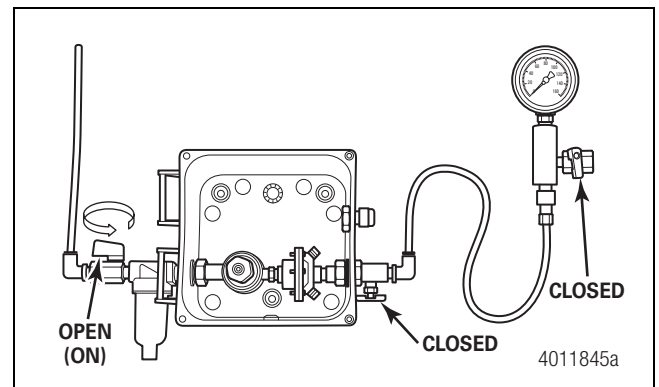

Figure 3.12
5. Turn the supply line ball valve to the ON position. This allows air to charge the control box system. Figure 3.12.